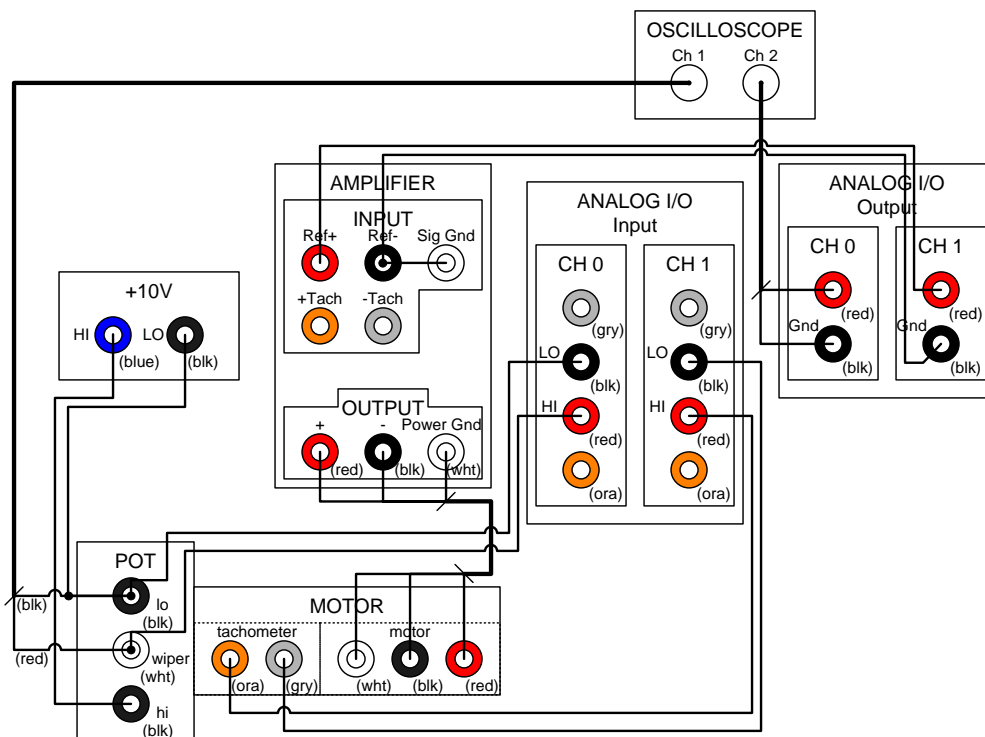

Figure 5.5. : Wiring diagram for Part II.
3. Wire the circuit as shown in Figure 5.5.
9. Complete your model, using blocks from the SIMULINK Library Browser. As in Figure 5.5, V_{pot} is connected to ADC channel 0, V_{tach} is connected to ADC 1, v_r is connected to DAC 0, and e_2 is connected to DAC 1. Use **Slider** blocks instead of a gain blocks for K_1 and K_2 .